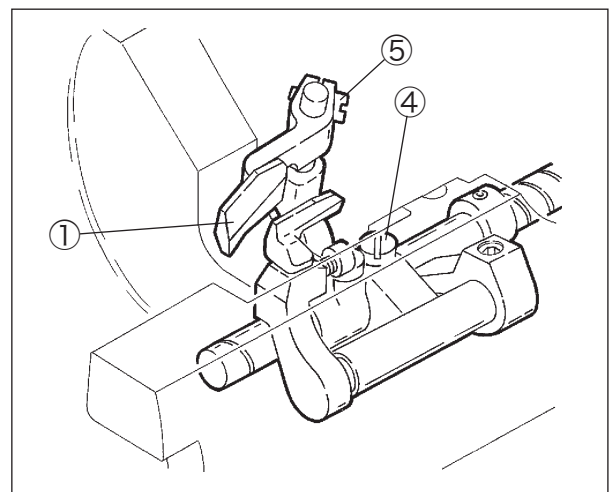

Fig. 6-27
- (1) Loosen the screws ④⑤. (Fig. 6-27)